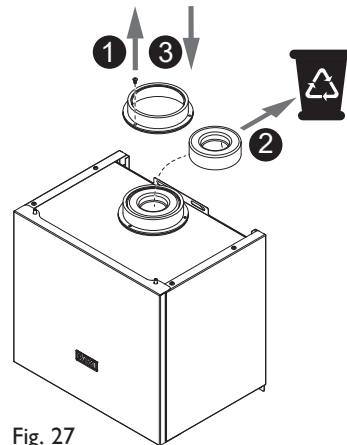

Fig. 27
4. Undo the screws securing the top flue adaptor and remove the adaptor. Retain the screws & adaptor for re-use. Extract the blanking cap and discard, recycling where possible. Refit the adaptor and secure with the screws previously removed (Fig. 27).